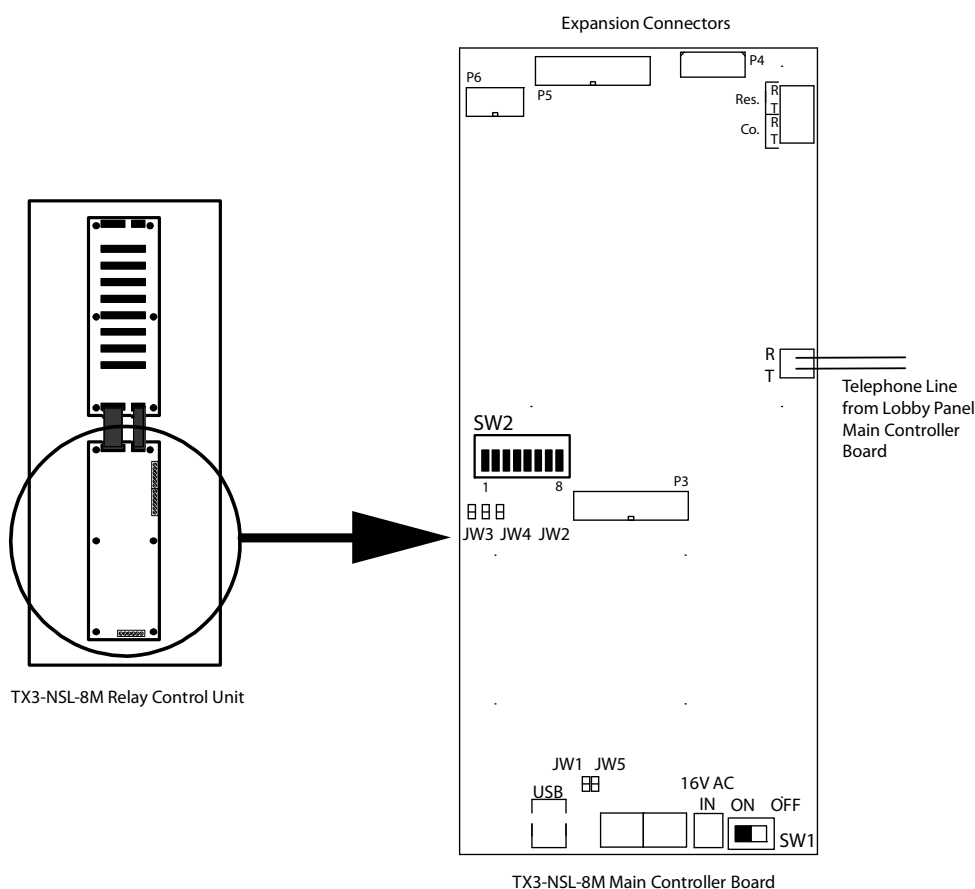

Figure 39. TX3-NSL-8M Main Controller Board
Figure 39 shows the general layout of the TX3-NSL-8M Main Controller board components.
1. Connect a telephone to the TX3-8M-NSL Relay Control unit telephone terminal block (see Figure 39).